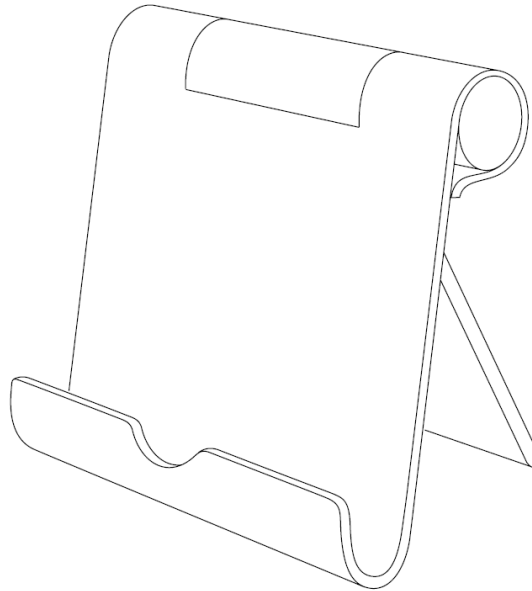

Fig.5
- 3 **Fig.5** shows the design of a stand for a tablet computer.
- (c) Use sketches and notes to describe how the tablet stand shown in **Fig.5** would be manufactured as a batch of 50 000 from aluminium alloy. Give details of manufacturing processes, equipment and any machinery required in your response. **[8]**